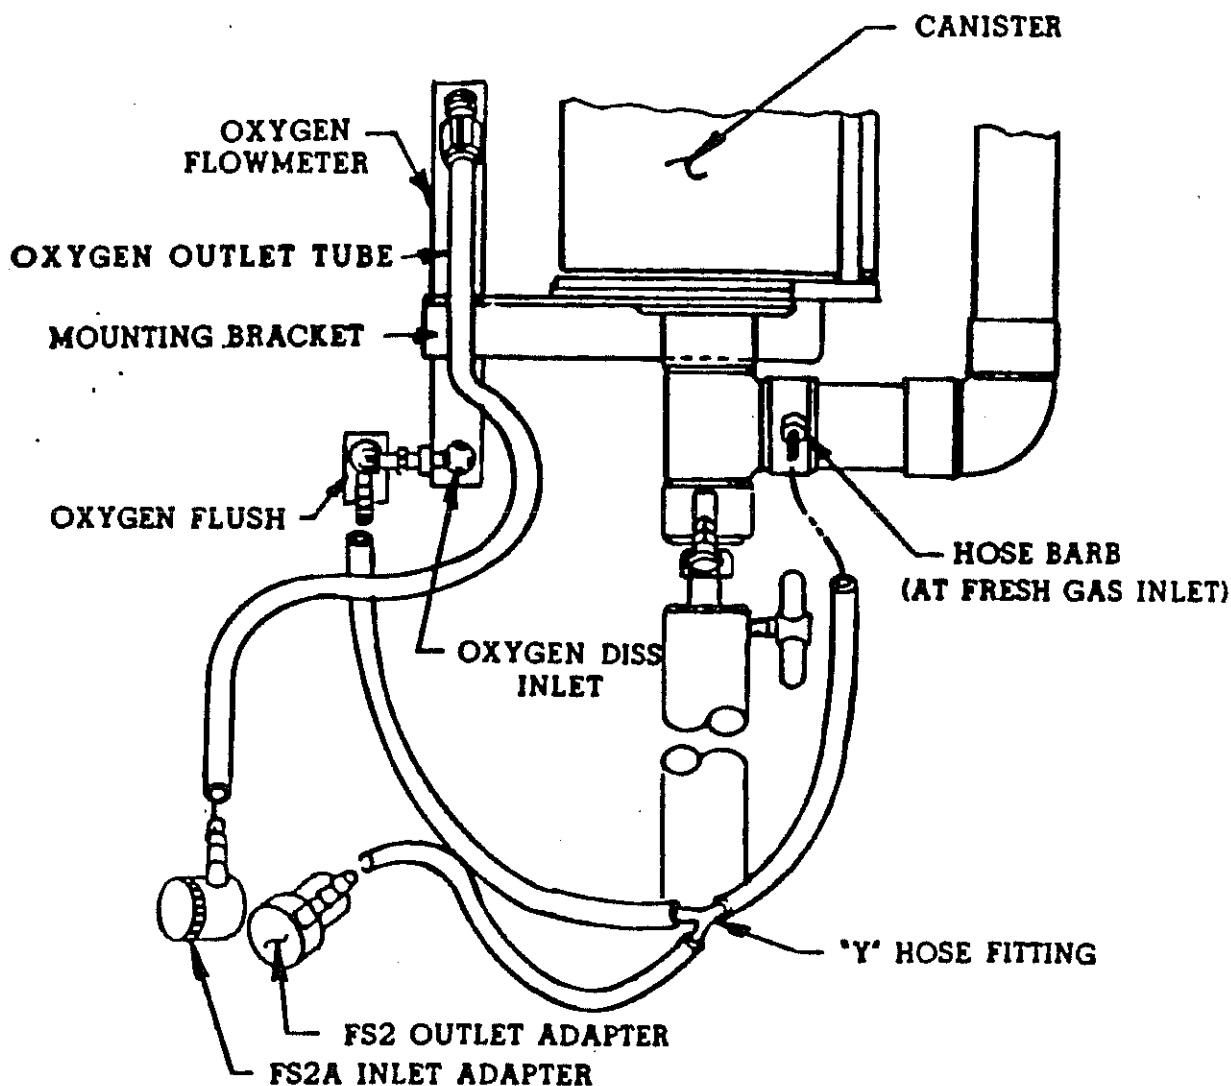

Figure 5 - Hose Connections
3. Connect the "Y" hose, single end, to the hose barb at the fresh-gas inlet in lower absorber structure (see Figure 5).